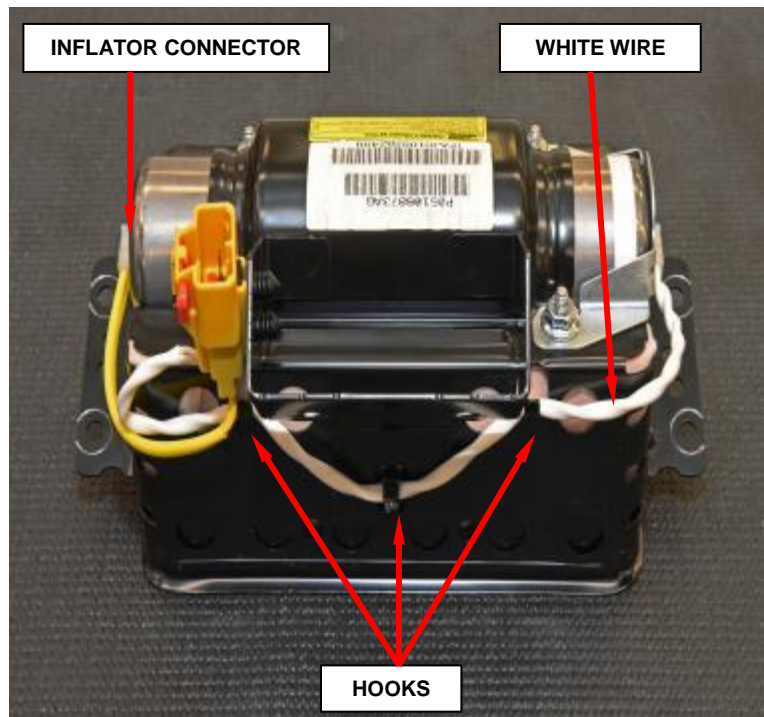

Figure 47 – Retrofit Complete
- l. Attach the white wire to the three hooks on the housing (Figure 47).
- n. Connect the single yellow wire inflator connector to the end of the inflator after removing the protective tape from the end of the inflator (Figure 47).
- o. Passenger airbag retrofit is complete (Figure 47).